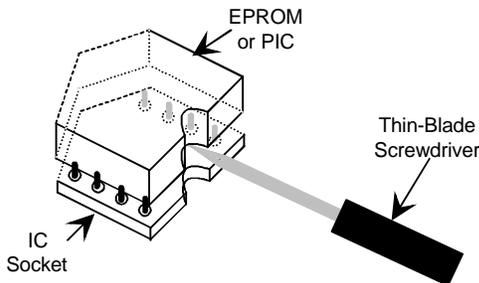

Figure 2 – EPROM/PIC Removal
2. If you have an IC Puller, position the puller at the top and bottom of the EPROM. If not, from the top of the controller's PCB, carefully slide a thin blade screwdriver between the EPROM and the IC socket holding the EPROM (see Figure 2).
2. If you have an IC Puller, position the puller at the top and bottom of the PIC. If not, from the top of the controller's PCB, carefully slide a thin blade screwdriver between the PIC and the IC socket holding the PIC (see Figure 2).